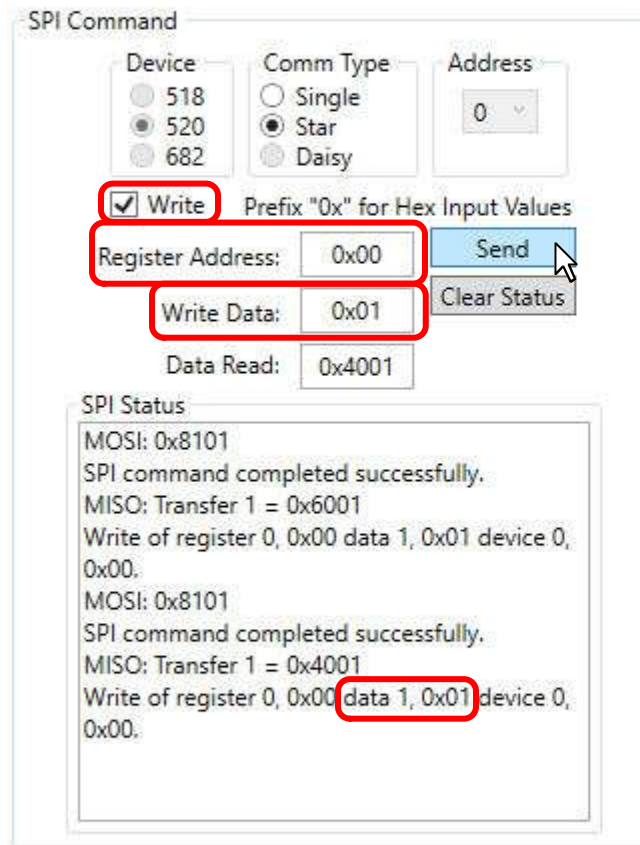

Figure 6-14. SPI Write Example
- Write the desired data in the box next to **Write Data:** as shown in Figure 6-14.